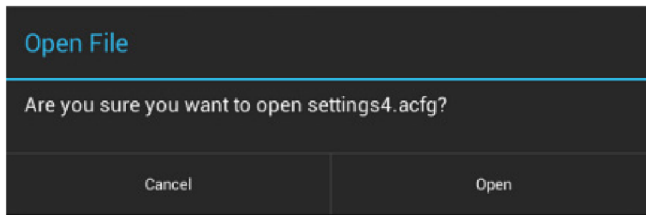

FIG. 115 Open File window
4. The panel will prompt you to verify this action (FIG. 115):